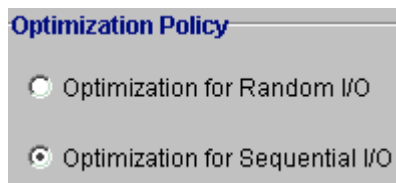

Figure 6-3: Optimization Policy
- ◆ **Optimization Policy** (choose one from *Figure 6-3*):